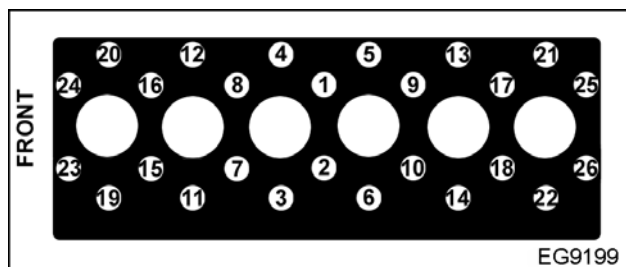

Figure 162 Cylinder head bolt tightening sequence
3. Tighten each cylinder head bolt (long and short) to 136 N·m (100 lbf·ft) in cylinder head bolt tightening sequence (Figure 162).
4. Tighten each cylinder head bolt (long and short) to 177 N·m (130 lbf·ft) in cylinder head bolt tightening sequence (Figure 162).
7. Tighten each cylinder head bolt (long and short) by rotate each bolt 90 degrees (1/4 turn) in cylinder head bolt tightening sequence (Figure 162).